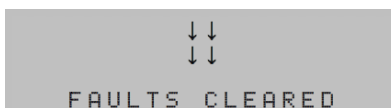

Figure 8-14: Faults Cleared Display
3. Press **Enter** to clear all fault alerts across the network. The screen in Figure 8-14 displays, before returning to the Home display after a few seconds.